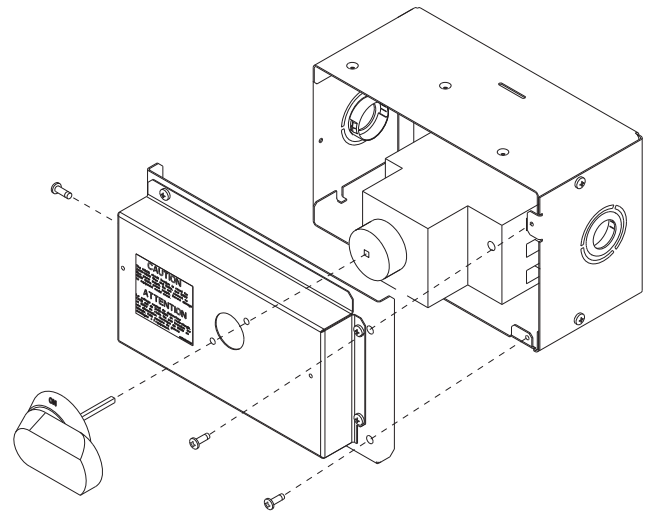

Fig. 30 — HACR Handle and Shaft Assembly
2. Remove (3) cap head screws that secure the HACR enclosure — (2) on the face of the cover and (1) on the left side cover. See Fig. 30.
5. Insert the shaft all the way with the cross pin on the top of the shaft in the horizontal position. See Fig. 30.
9. Secure the handle to the painted cover with (2) screws and lock washers supplied.
10. Engaging the shaft into the handle socket, re-install (3) hex screws on the HACR enclosure.